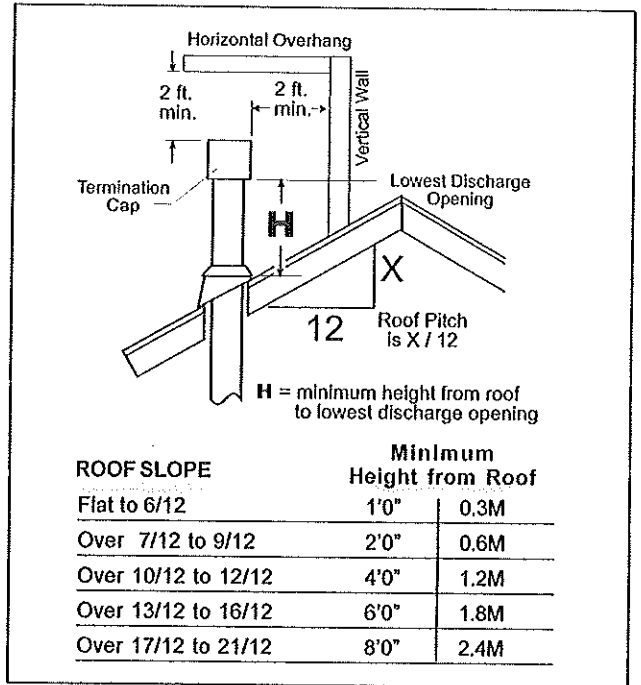

Figure 10. Gas Vent Height Rule: Vertical vent termination height above roof.
- The minimum vent height above the roof or adjacent walls is specified by major building codes. Use the Gas Vent Rule as a general guide. See Fig.10. requirements of the approval listing and the manufacturer's instructions.